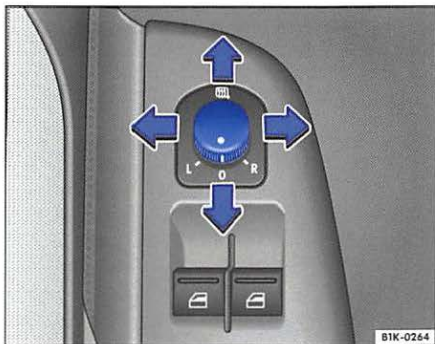

Fig. 47 Section of the driver's door: joystick for the outside mirrors
1. Turn the joystick ⇒ **fig. 47** to **L (left outside mirror)**.